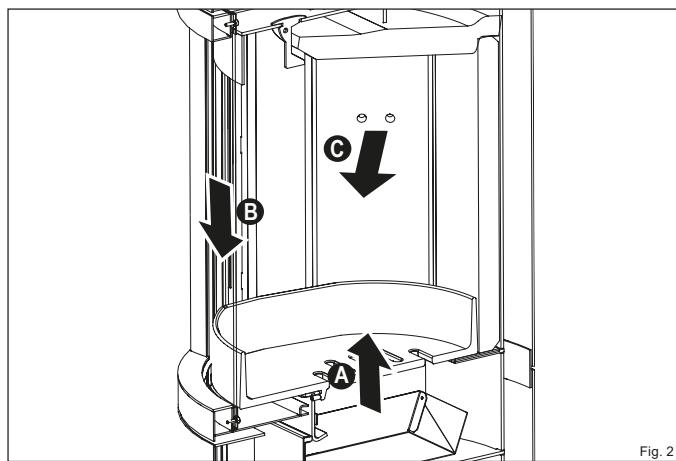

Fig. 2
- The catalytic combustors **iQ+** (Fig. 2, No. 5) not only minimise carbon monoxide, but also fine particles and hydrocarbons.